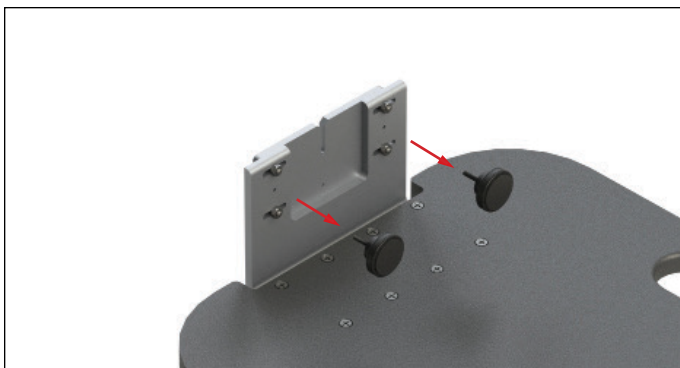

Fig. 1
1. If installing on a Siemens machine, unscrew the 2 plastic knobs (Fig. 1).